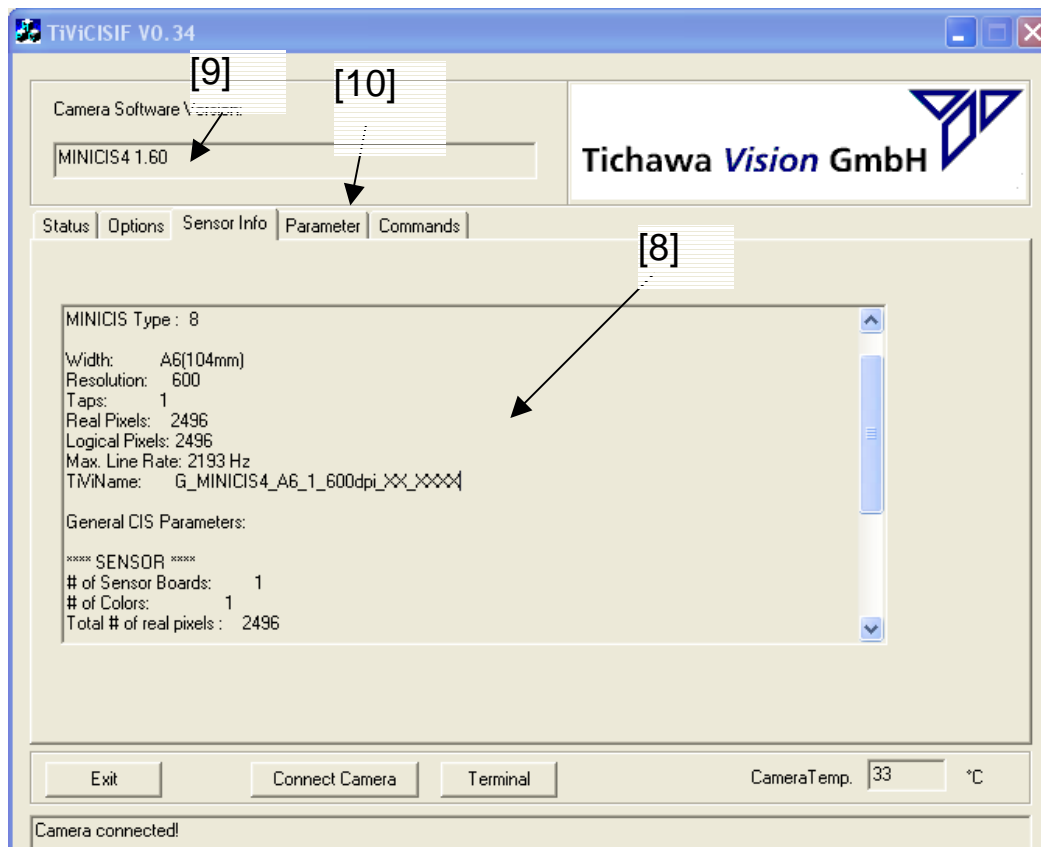

Figure 3 – sensor info
- i) In the Sensor Info you are able to see the sensor specifications [8] and the Camera Software Version [9] (figure 3). This menu is only for your information and could help to write an camera file.
- j) After you checked this information you can go to the parameter menu [10] figure 3